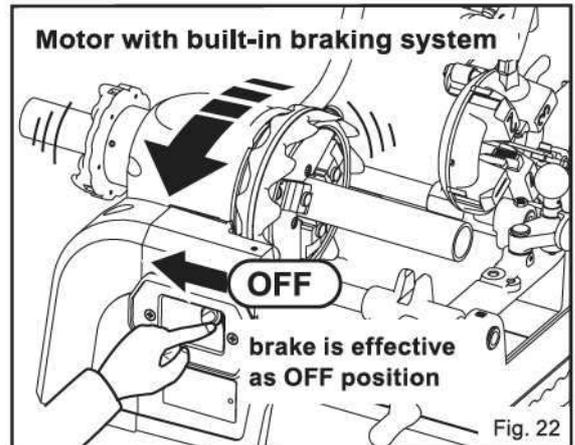

Fig. 22
10. Motor with braking system (Fig. 22)